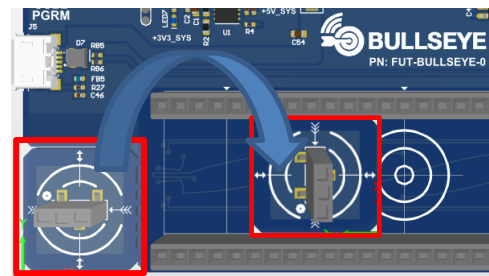

Fig.2 Break Out Actuator Board
- Break-off the small Actuator PCB attached to the lower left corner of the Bullseye board, by twisting up/down with your hand or using cutters. (Fig.2)
- ⇒ Place this small actuator board anywhere in between the two guide rails (J11)&(J12), as shown in Fig2